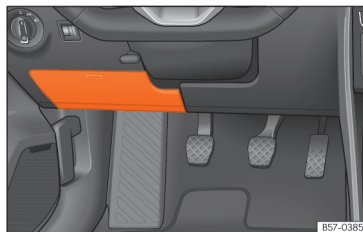

Fig. 201 On the dashboard on the driver side: lid of the fuse box.
- **Open:** fold the cover down »» Fig. 201.